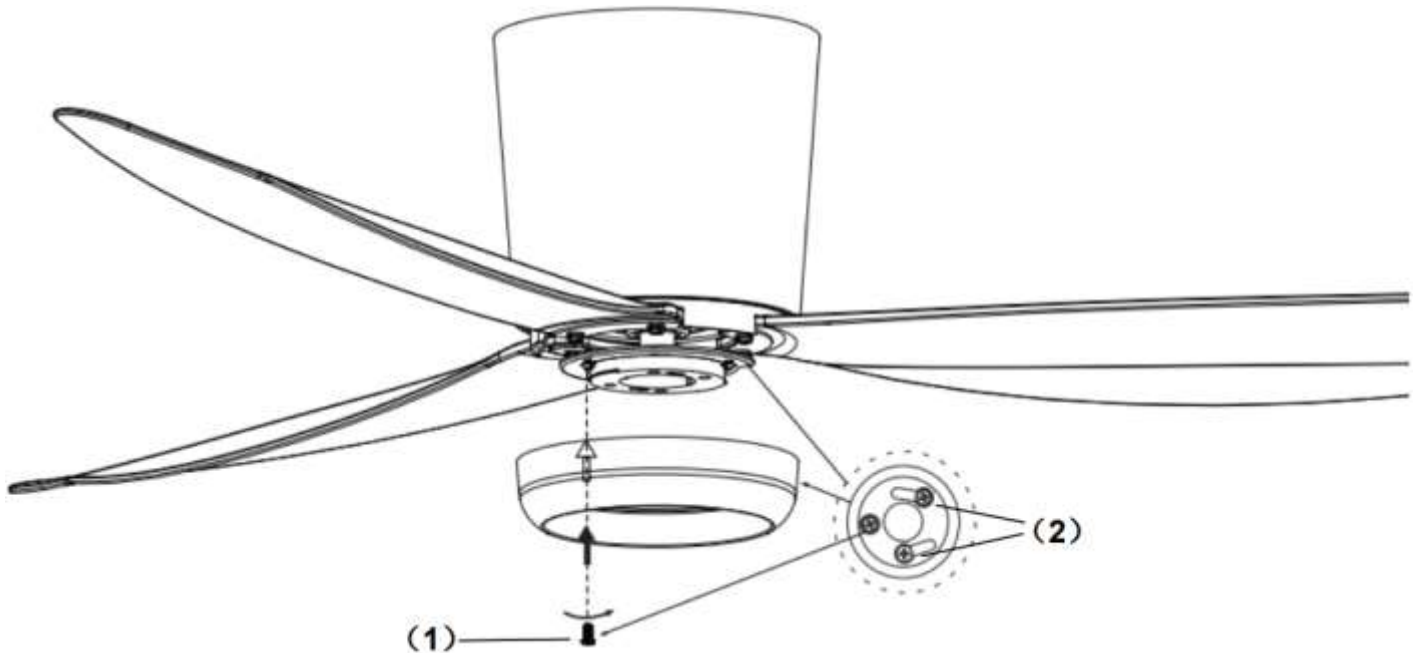

Fig. 11
INSTALLATION OF LIGHT KIT (Fig. 11)
1. Loosen the screw (1) from the fan bracket. (Fig. 11)
2. Align the two slot screws with the keyhole slots (2) of the light kit plate. (Fig. 11)
3. Turn the light kit plate counterclockwise until the slot screws are firmly at the end of the slots (2).
4. Secure screw (1) to the lamp shade bracket. Tighten all three screws. Do not over-tighten.